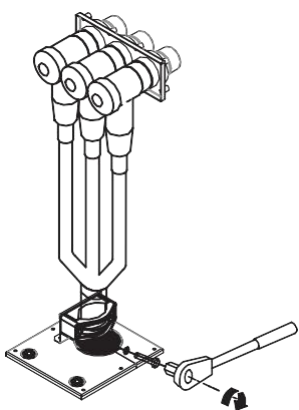
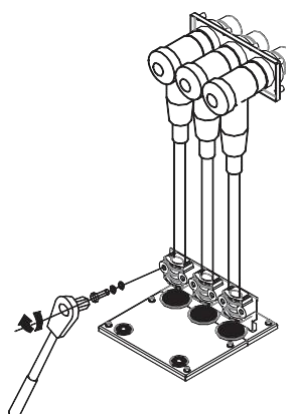

Fig. 2
Fig. 3
- After the cable head installation is completed, the cables must be secured with cable clamps (see Figure 2 or Figure 3). This prevents unreliable lapping and air leakage at the cable bushing seal due to external forces.